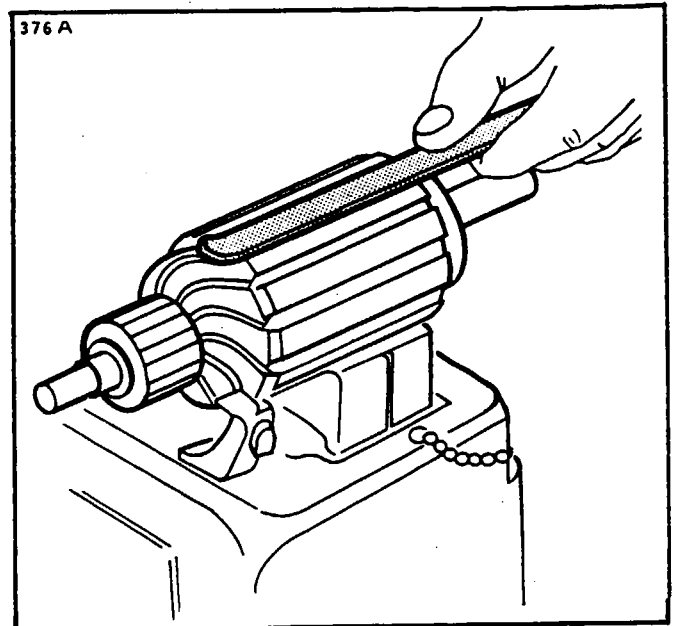

Figure 11-18. Testing Motor Armature for Shorts
c. To test for shorted armature coils, a growler is used. (Refer to Figure 11-18.) The armature is placed on the growler and slowly rotated by hand while a steel strip is held over the core so that it passes over each armature core slot. If a coil is shorted, the steel strip will vibrate.